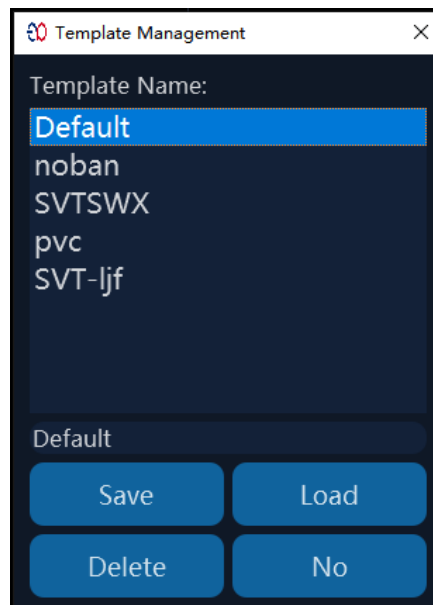

Figure 10-13 System Template Management Dialog Box
- 2) Click the Template Management () button in the toolbar of the 3D map page to display the System Template Management dialog box (Figure 10-13).